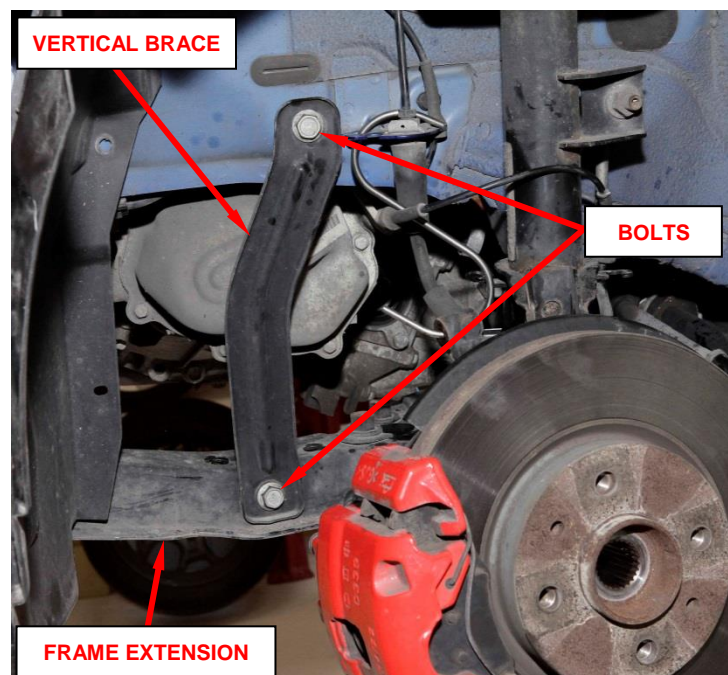

Figure 42 – Vertical Brace Left Side
41. Remove and save the two bolts attaching the vertical brace to the left side of the vehicle, then remove and save the vertical brace (Figure 42).